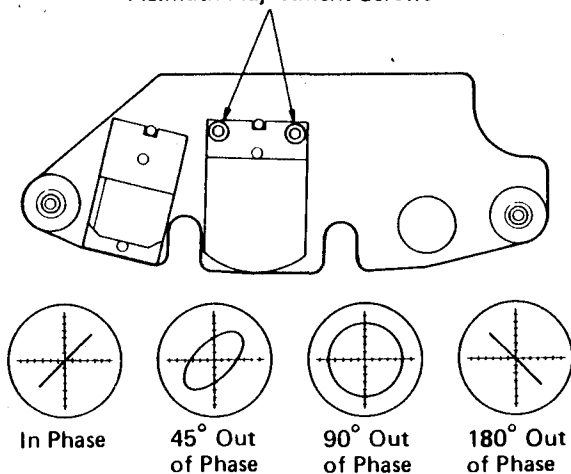

FIG. 27. HEAD AZIMUTH ADJUSTMENTS
- b. Adjust the azimuth adjustment screw shown in Fig. 27 (by slightly loosening one while tightening the other, alternately) until channels 2 and 23 are in phase as seen on the scope and, at the same time, the voltmeter provides maximum reading.